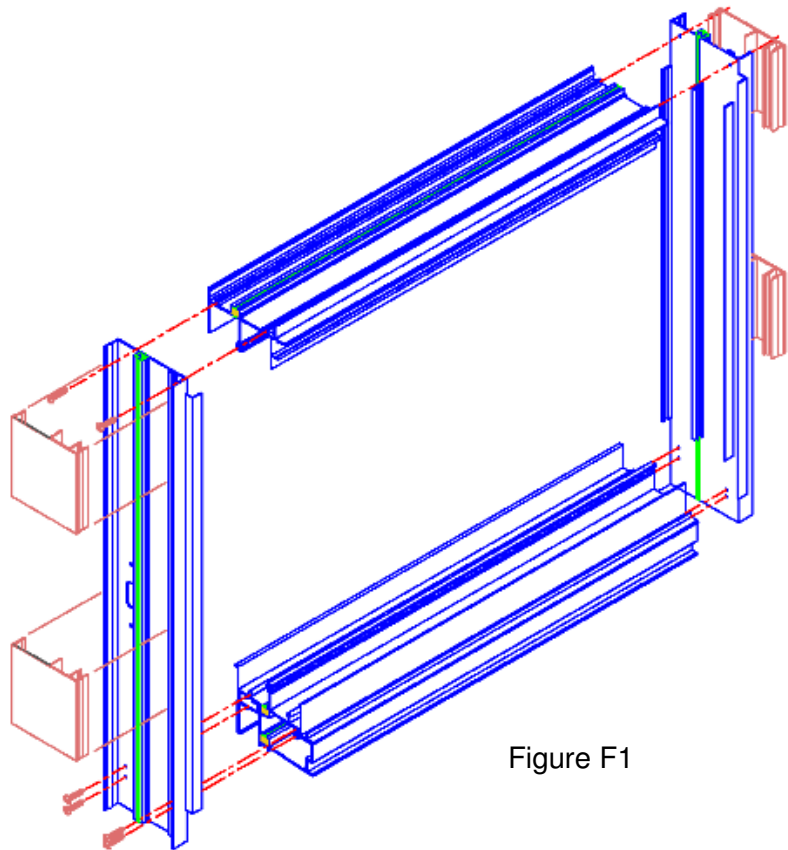

Figure F1
- A. Apply Jamb Shims to both frame jambs by snapping into jamb. Locate 4" to 6" from each end, and evenly space remaining shims 16" to 18" (See Figure F1).